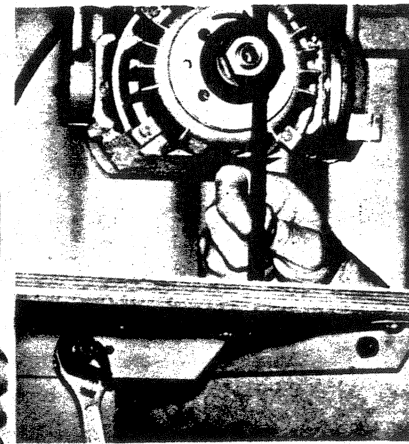

Figure 11
7. ADJUSTING TABLE TOP PARALLEL WITH ARM (figure 11)